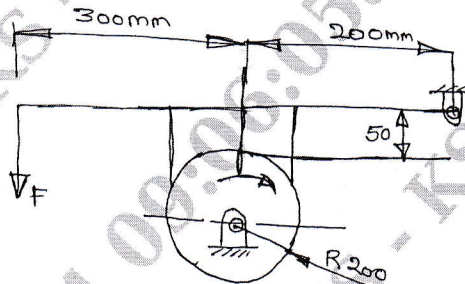

Fig. Q8(b)
- b. A single block brake with a torque capacity of 250 N-m is shown in Fig.Q8(b). The brake drum rotates at 100 rpm and the coefficient of friction is 0.35. Calculate :